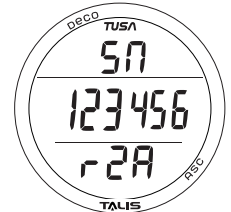

Fig. 44 - SERIAL NUMBER
SERIAL NUMBER (SN), information includes (Fig. 44):